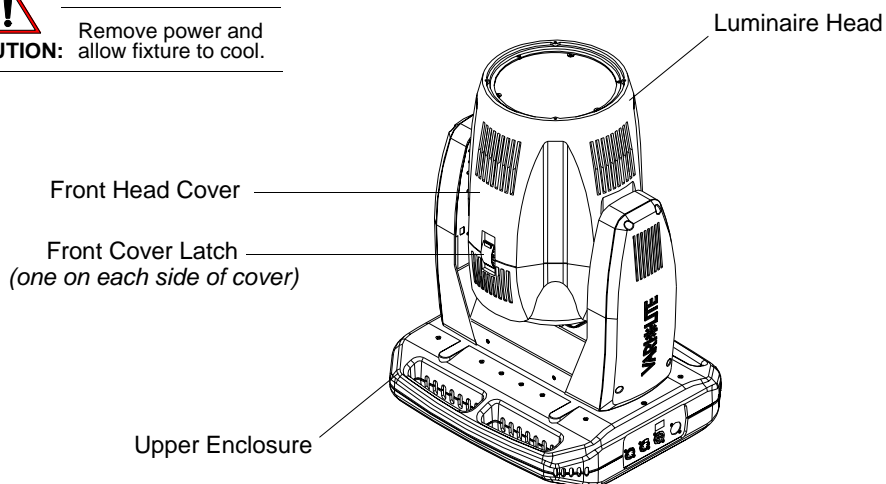

Figure 2-36: VLX Wash Luminaire
Step 2. Carefully set luminaire on upper enclosure, rotate head as shown in Figure 2-36, and engage tilt lock.